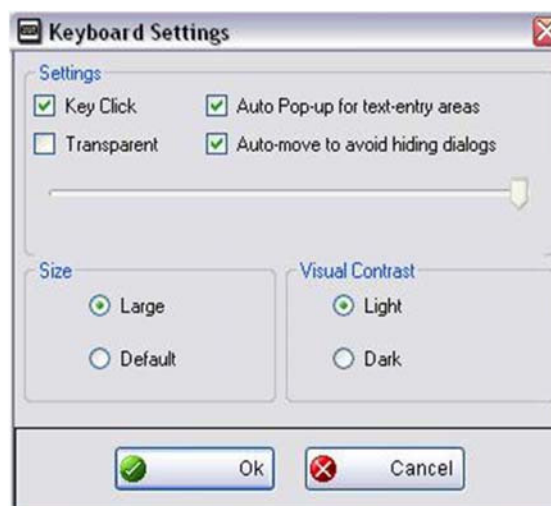

Figure 3-7 Virtual Keyboard settings window
- **Settings** - opens the Virtual Keyboard settings window (Figure 3-7)
1. **Settings icon** - opens the Virtual Keyboard settings window (Figure 3-7)
The Virtual Keyboard can be set to open automatically, when a data field or form is selected in certain applications. See the Settings window (Figure 3-7) for selection options.